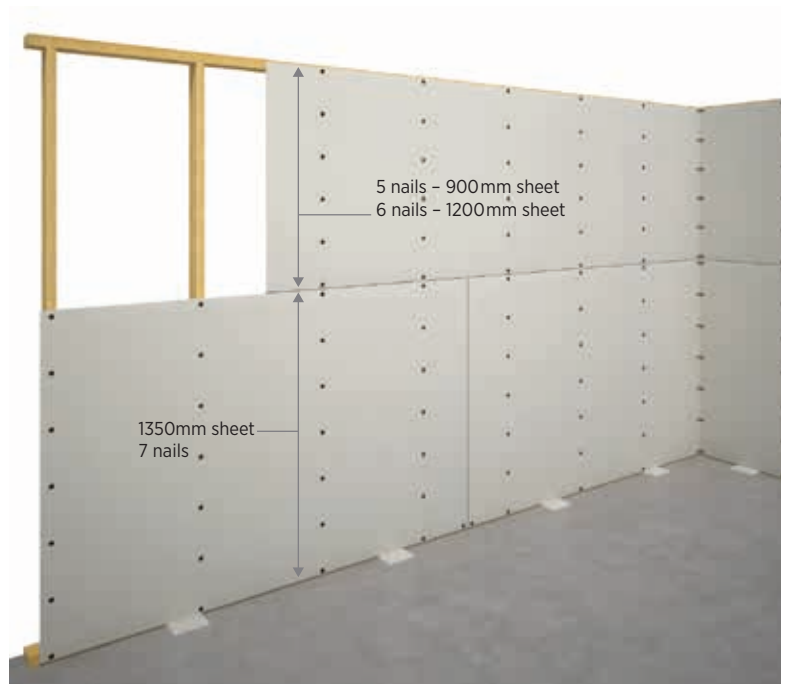

Figure 31: Nail fixing to walls (single nails)
- Refer Table 24 and Figure 31 for min number of nailing points per framing member.